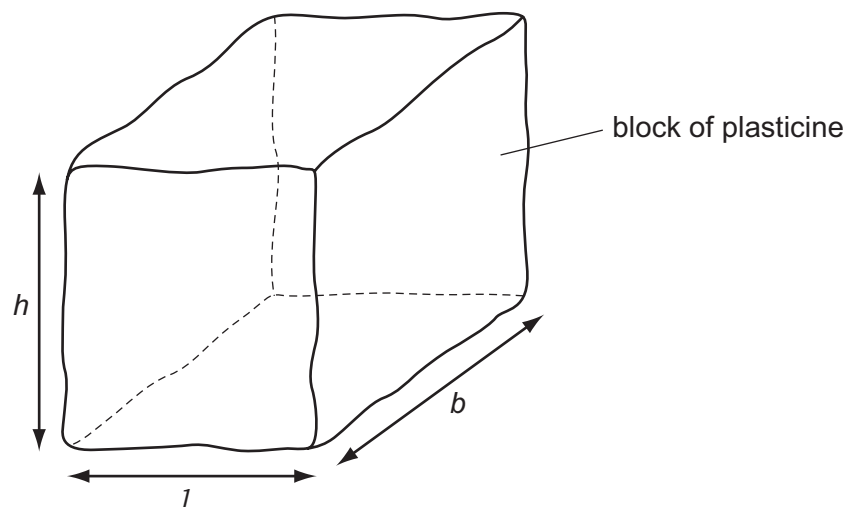

Fig. 3.2
- (i) Pour the water from the measuring cylinder back into the beaker, remove the plasticine from the measuring cylinder and dry the plasticine with the paper towels. Using **both** pieces of plasticine, mould them together into a shape that approximates to a cube, as shown in Fig. 3.2.